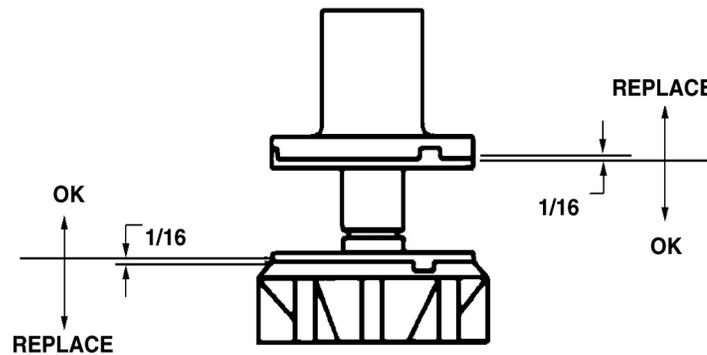

Figure 3. Auger Assembly
8. Check white upper bearings on auger assembly. If bearings are less than 1/16” thick, replace See Figure 3.